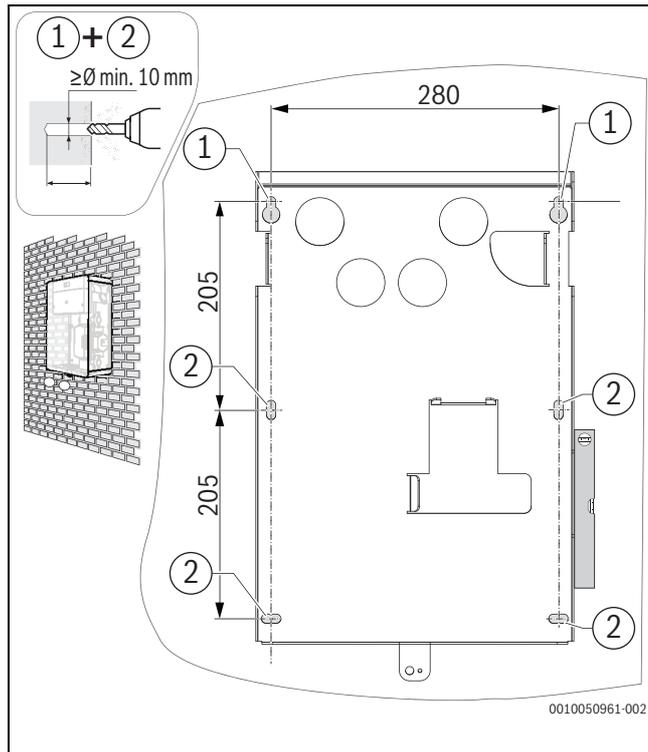

Fig. 15 Drilling plan for option 2
- ▶ Drill holes in the wall according to the drilling plan (→Fig. 15).